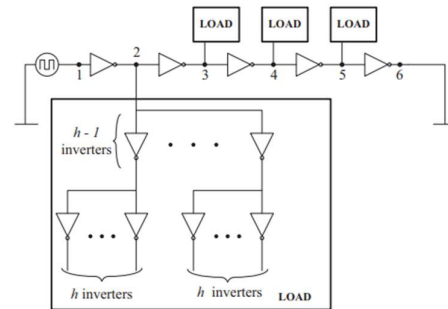

Fig. 1. Reference circuit for $\tau(X)$ computation.
- ✓ Design the characterization circuit in Fig. 1 for that inverter.
Figure 1 τ and p Characterization Circuit for the inverter